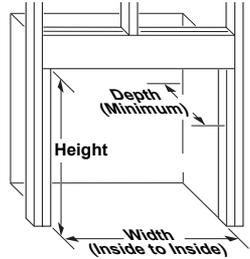
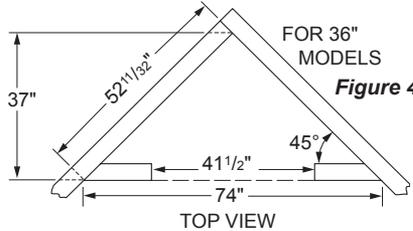

Figure 4a
Figure 4b
1. Frame in rough opening. The fireplace framing should be constructed of steel stud or steel framing. Use dimensions in Table 1 and rough opening layout in Figure 4a. Adjust framing so that fireplace is flush with finished wall surface. If installing in a corner, use dimensions in Figures 4b and 4c for rough opening.